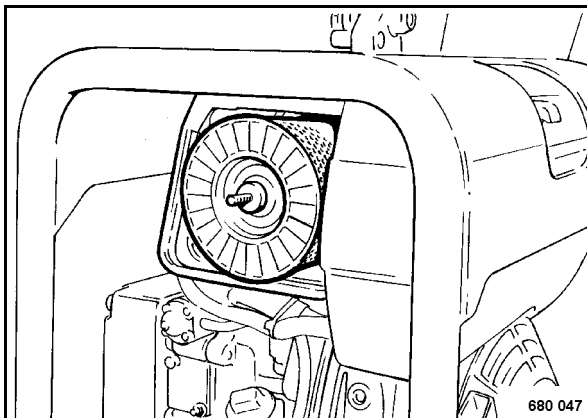

Fig. 61
- Insert the filter cartridge (Fig. 61) into the housing and fasten it with the knurled nut.